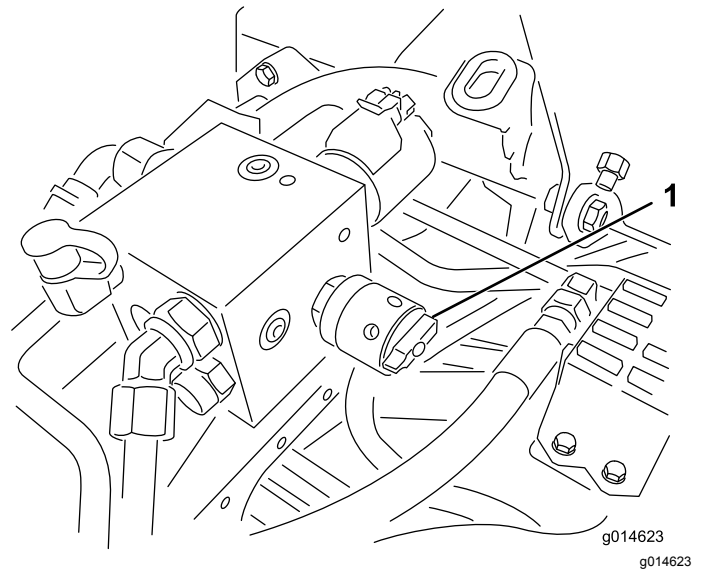

Figure 54
6. Rotate the reel speed control to setting 1 (Figure 54).